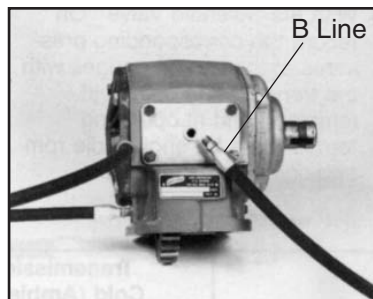

Fig. 1
4. Remove the "B" line from the P.T.O. with the Solenoid Valve "On." No oil should appear from the line. Then turning the Solenoid Valve to "Off" should dump the oil from the P.T.O. Clutch Pack through this line. (**Fig. 1**)